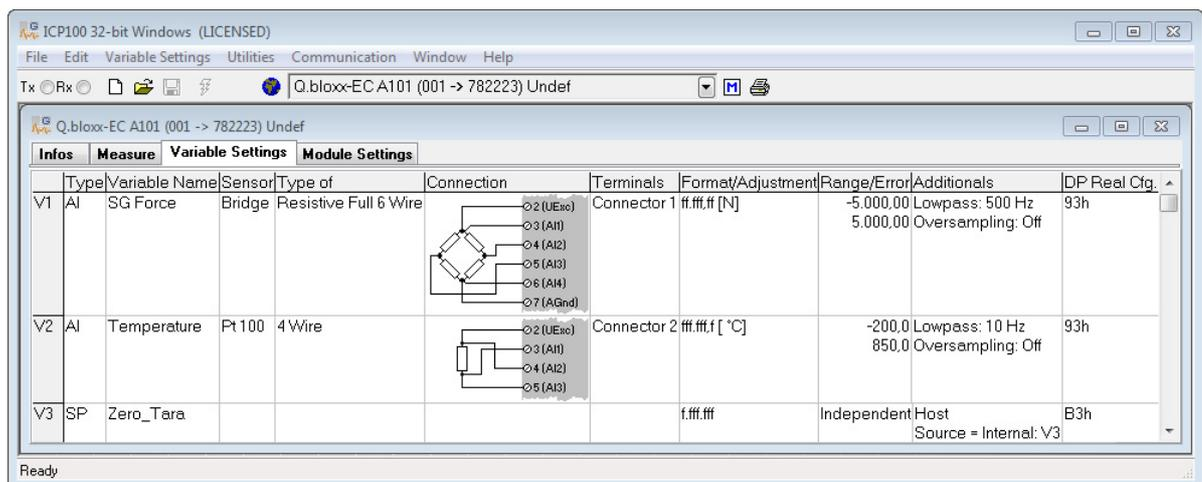

Fig. 6-4 Defining the variable for zero balancing and/or taring.
1. Click in the column **Type** of the first free row (V3 = Variable 3 in Fig. 6-4) or mark the row (click on V3) and use **Variable definition > Type**.
3. Click in the column **Variable name** and allocate a name specifying the purpose of the signal, e.g. Zero_tare (Fig. 6-4).
4. Click in the column **Format/balance** of the channel for which zero balancing and/or taring is to be executed, e.g. for the strain-gauge force sensor in Fig. 6-4.